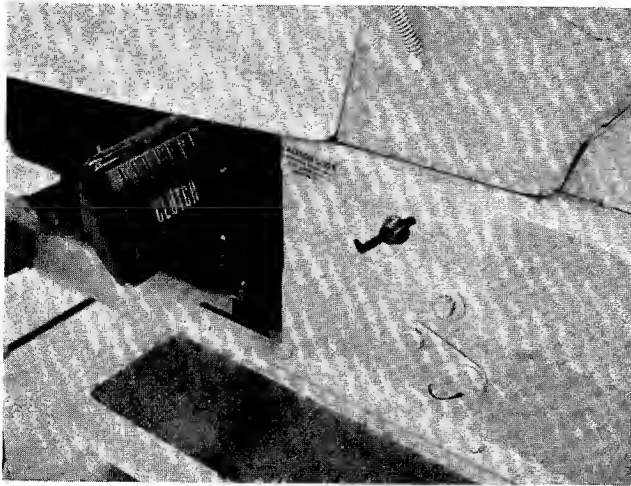

FIGURE 17.
- j. **Clutch Pedal.** The clutch pedal is used to disengage the drive mechanism. Depressing the clutch pedal at any time will reduce mower speed. See figure 17.